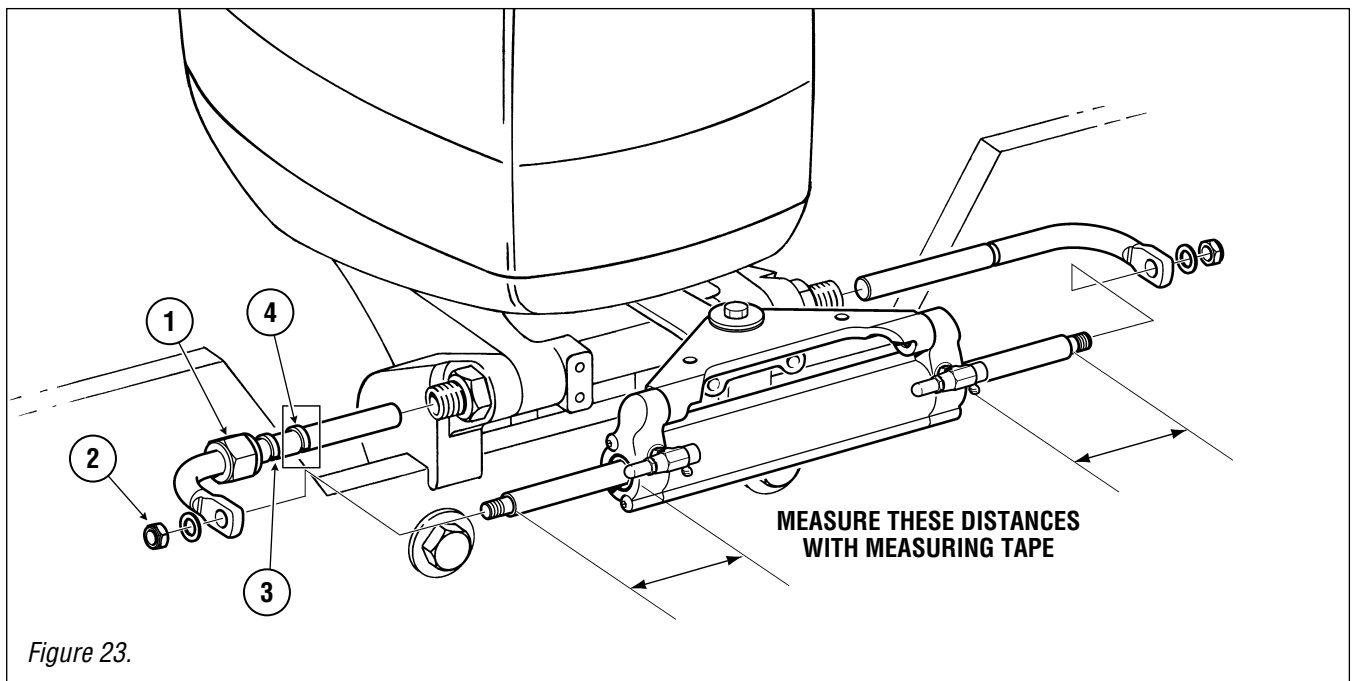

Figure 23.
2. Using a measuring tape, measure the amount of steering rod on both sides of the steering cylinders. (Refer to figure 23.) If the starboard side of the rod is shorter than the port side by $11/16$ " or more, proceed to Step 3. If less than $11/16$ " your cylinder is centered, continue on with steering installation as per your installation manual.
3. Remove the support rod mounting nut (item 1), the cylinder end nut (item 2), then remove the support rod assembly.
4. Carefully remove the support rod retaining clip (item 3) using a vice, and move the clip to the inner groove (item 4).